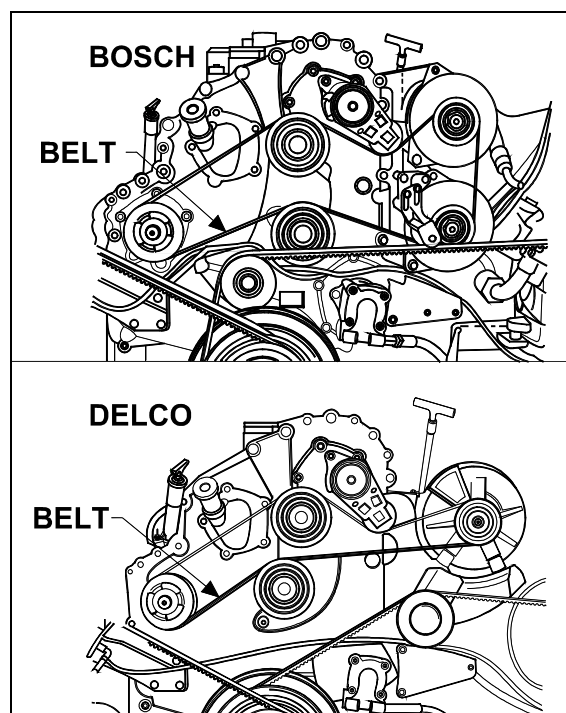

FIGURE 26: ALTERNATOR DRIVE BELT
1. Insert a ¾ " socket drive into one of the tensioning arm opening (Fig. 26).